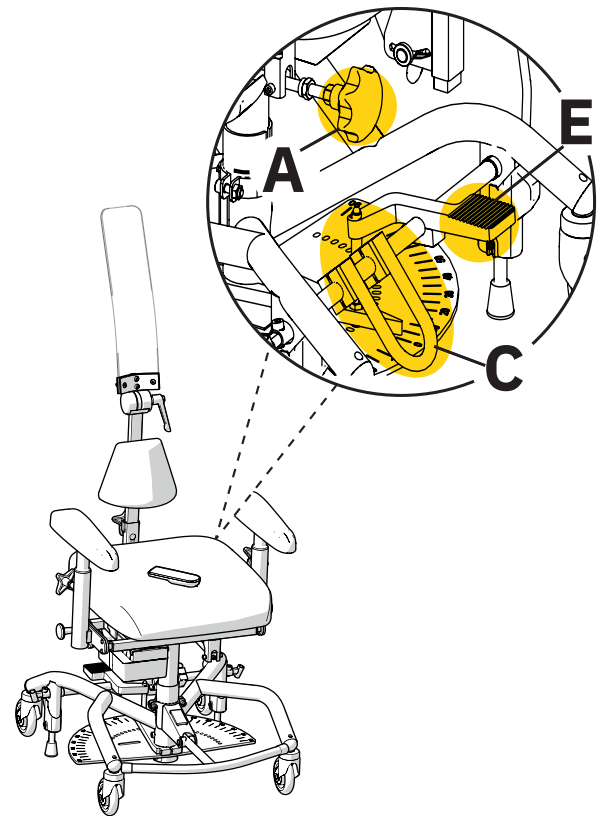
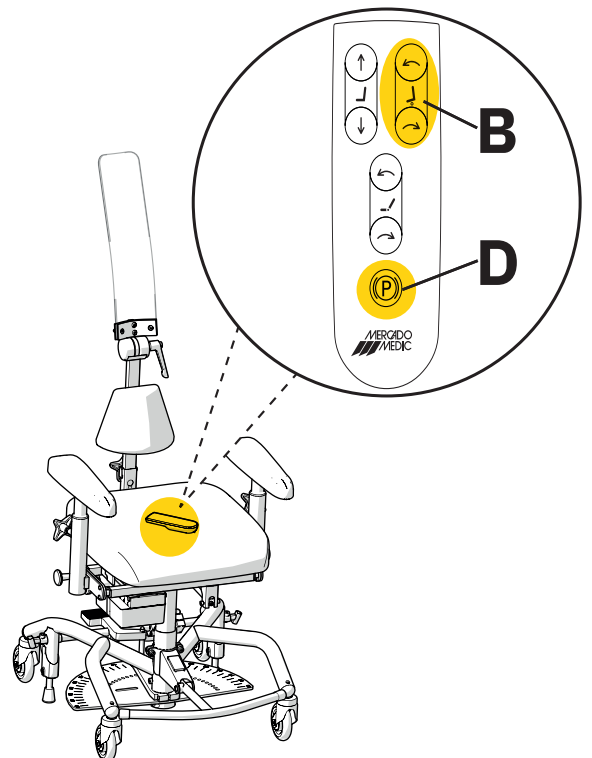

Figure 2.2. Controls for Real 8100 PLUS 24V Standard
Figure 2.3. Controls for REAL 8100 PLUS 24V Comfort
The device is equipped with electric height adjustment controlled by wireless remote control. The device is equipped with electric or manual height adjustment, depending on the model. Seat tilt is manually adjusted using the crank handle under the seat (A) (see Figure 2.2). Seat tilt (B) is electrically controlled using the wireless remote control (see Figure 2.3). The device is equipped with an electric or manual brake, depending on the model. The manual brake is activated and deactivated with a pedal (C) (see Figure 2.2). The electric brake (D) is controlled by wireless remote control (see Figure 2.3). The device is equipped with lockable seat rotation which is adjusted using the control (E) on the back of the base (see Figure 2.2). Press down on the control with your foot to unlock the seat rotation, rotate the seat to the desired graduation and release the control to lock the mechanism in a fixed position. See 5. Configurations and settings for detailed information about all the features and controls of the device.